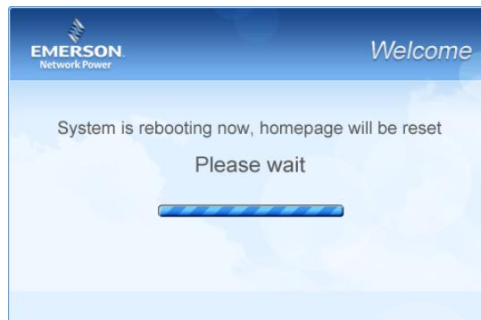

Figure 3-38 Reboot page
9) Type the login password of current user, and click **OK**. The reboot page pops up, as shown in Figure 3-38;